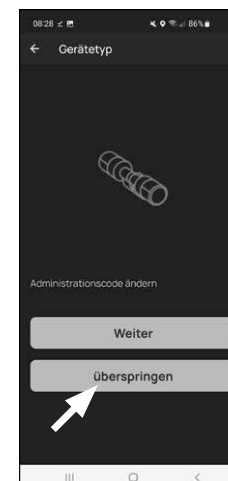

Fig. 7
- 8 A message appears informing you that you can change your administrator code. As you received a randomly generated administrator code at the time of delivery, this step is optional. You can bypass this with „Skip“ (Fig. 7).